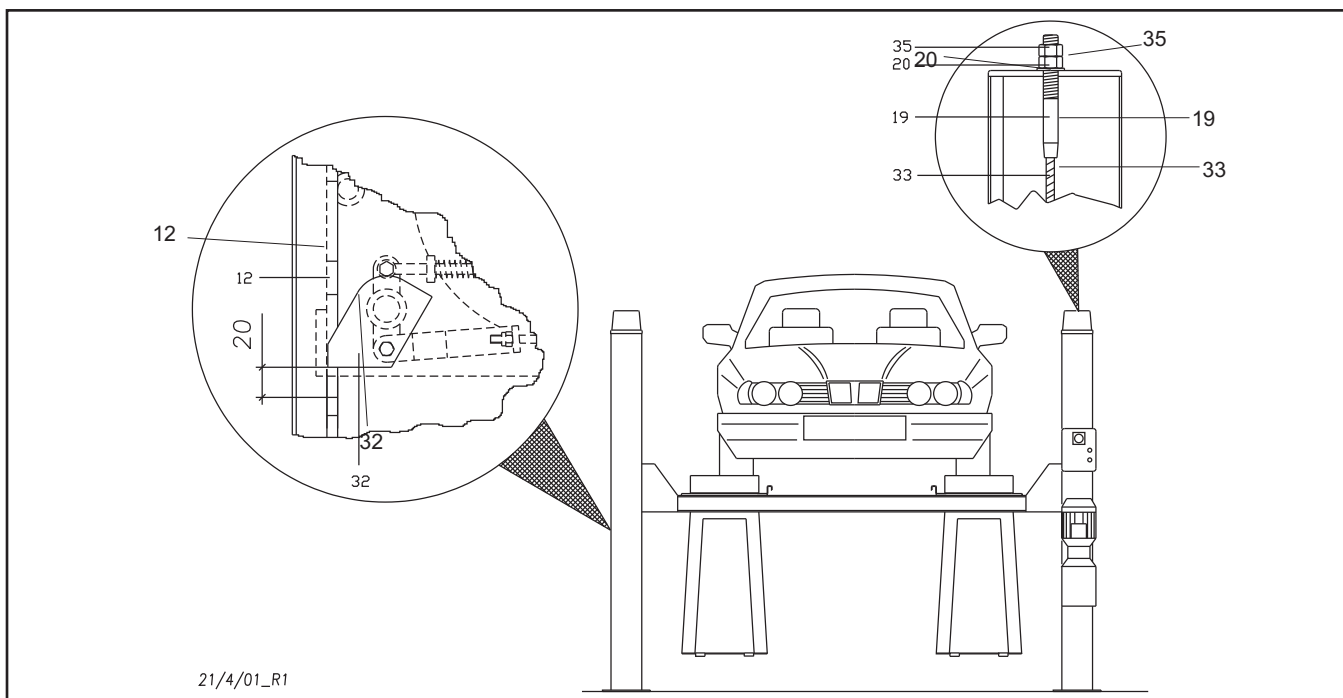

Fig.60 Adjusting the lift cables
Check if the distance between the wedges (32) and the slots of the safety rods (12) on the 4 posts (1-2-3-4) is at least 20 mm from the support (**fig. 60**); a lower value would not allow the safety device to rotate, and it would stay attached to the rod.